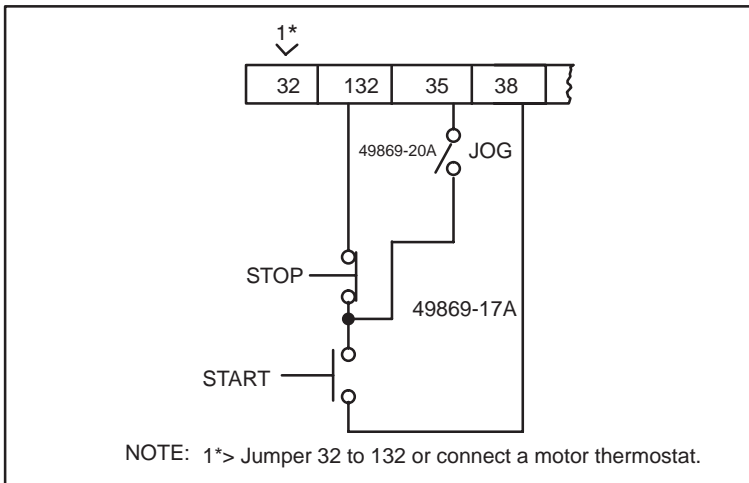

Figure 3-6. Basic Run/Jog Circuit Connections.
3. Wire the Run/Jog switch as indicated in Figure 3-6.